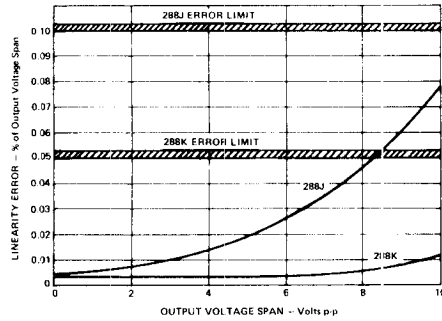

Figure 12. Gain Linearity Error vs. Output Voltage
**Gain Nonlinearity:** Linearity error is defined as the peak deviation of the output voltage from the best straight line and is specified as a % of the peak-to-peak output voltage span; e.g.,  $\pm 0.05\%$  @ 10V p-p output =  $\pm 5\text{mV}$  max RTO linearity error. Model 288 is available in two nonlinearity selections;  $\pm 0.05\%$  (288K) and  $\pm 0.1\%$  (288J)—max over the 10V p-p output span. The curves of Figure 12 illustrate typical linearity error over the 10V p-p ( $\pm 5\text{V}$ ) output span. At output levels less than 5V p-p ( $\pm 2.5\text{V}$ ), linearity error is typically less than  $\pm 0.025\%$  for both models 288J and 288K.